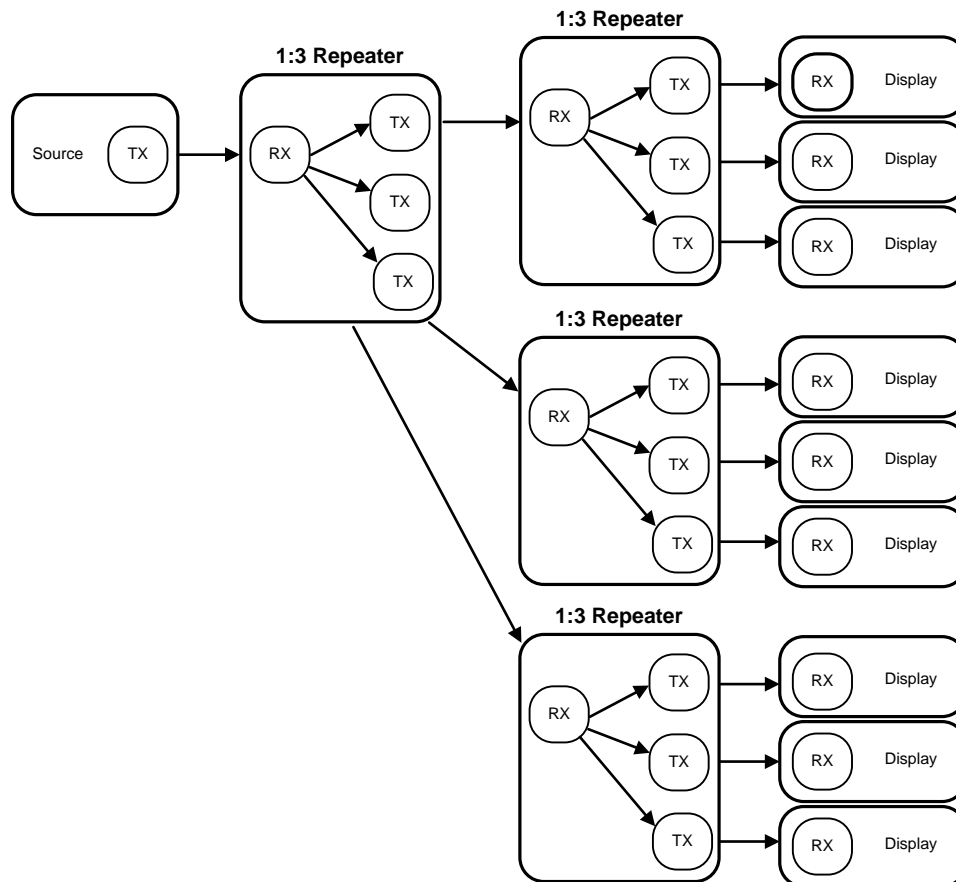

Figure 26. HDCP Maximum Repeater Application
In the HDCP repeater application, this document refers to the DS90UH947-Q1 as the HDCP transmitter (TX), and refers to the DS90UH948-Q1 as the HDCP receiver (RX). Figure 26 shows the maximum configuration supported for HDCP repeater implementations. Two levels of HDCP repeaters are supported with a maximum of three HDCP Transmitters per HDCP receiver.